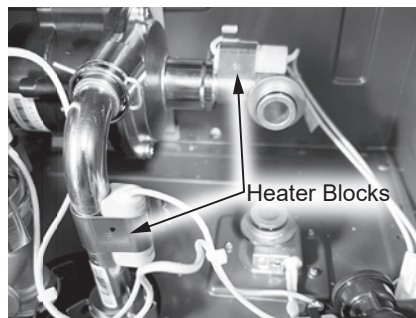

Figure 165 - Heater block locations
21 Locate the two heater blocks attached to the pump inlet elbow and the pump outlet tube as shown in Figure 165. Remove brackets (size 16) securing heater blocks to pipe connections. Place brackets aside in a safe place for reinstallation. Route heater blocks and wiring inside water heater cabinet for ease of access to water pump.
- 33** Locate the two (2) heater blocks and brackets (size 16) previously removed in **Step 21**. Secure heater blocks to pump inlet elbow and pump outlet tube as shown in Figure 165.